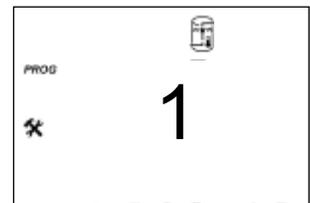

Fig. 7
- b. Use  or  to select “**1**” (**one** tank: solar+electric combined) and press  to accept (Fig. 7).